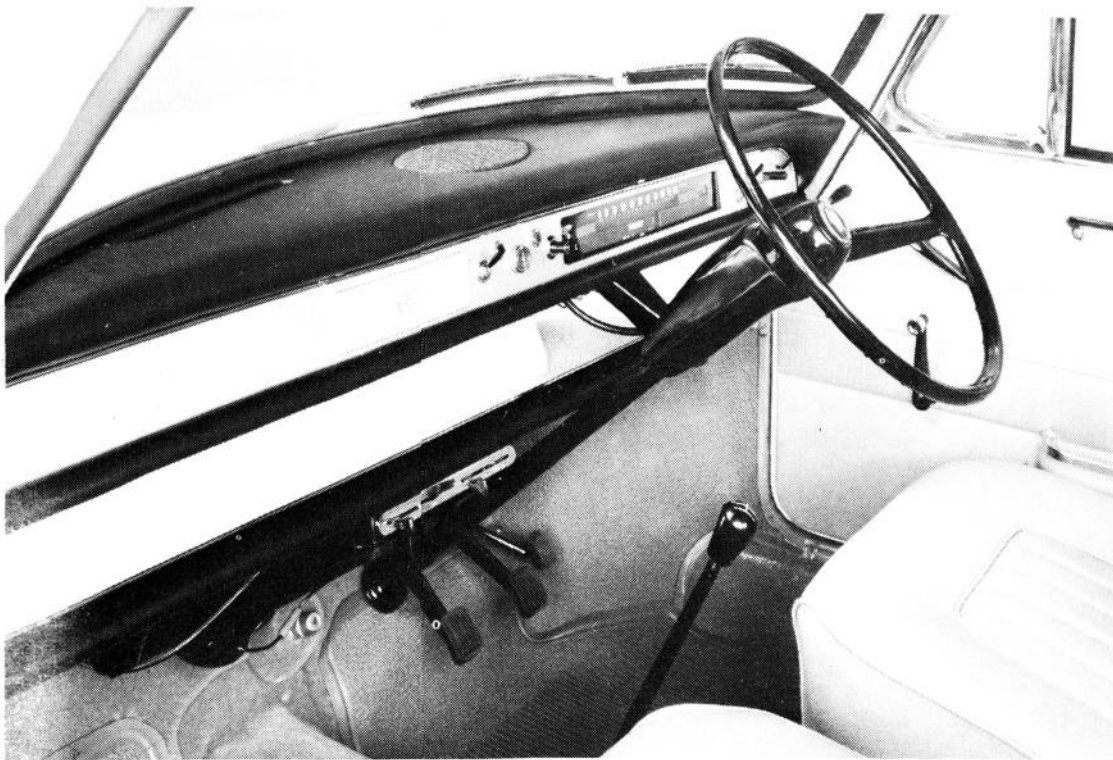

Fig. 11. Austin 1100, facia
Figs. 11 to 16 show the differences in lay-out of facia panels between models.
**Austin 1100 (Fig. 11):**